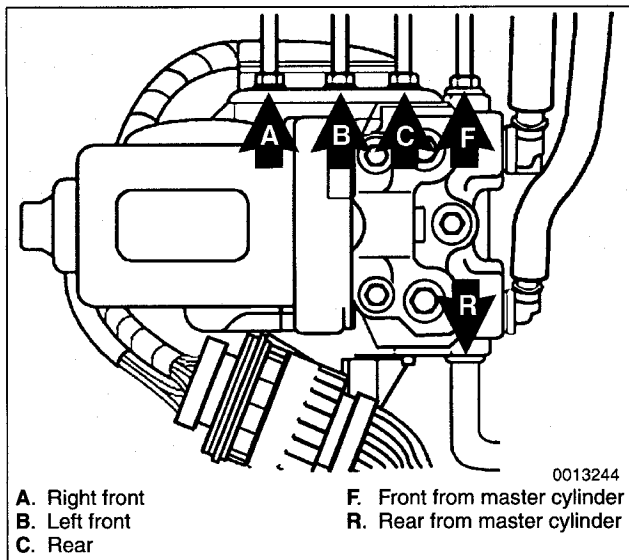

Fig. 12. Brake fluid lines at ABS hydraulic unit.
6. Disconnect ABS electrical connectors. Label and then disconnect brake lines from hydraulic brake unit. Plug openings. See Fig. 12.